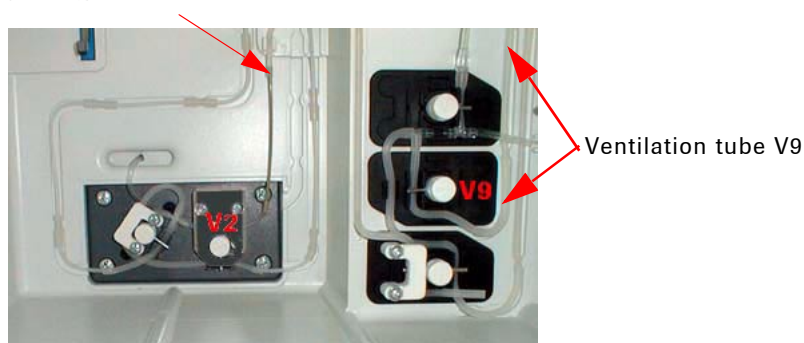

Fig. 36
- Return the ventilation tube (valve V9) to the guides (see Fig. 36).